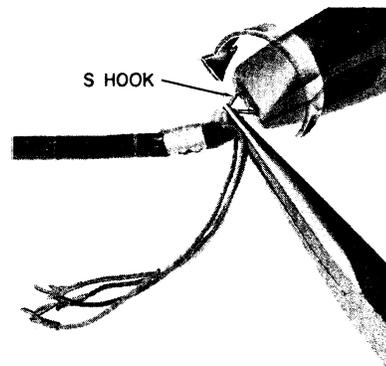

Fig. 11—Bending S Hook
- (2) Using long-nose pliers and 8-inch side cutters or equivalent (Fig. 11), turn large eye of S hook clockwise until positioned 90 degrees away from small eye of S hook.